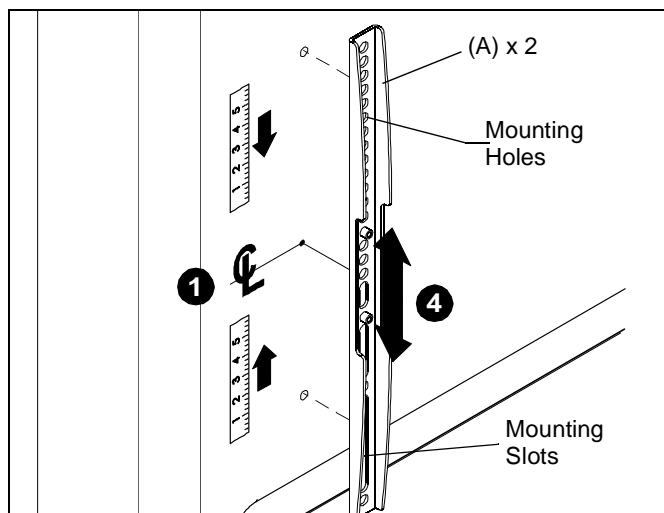
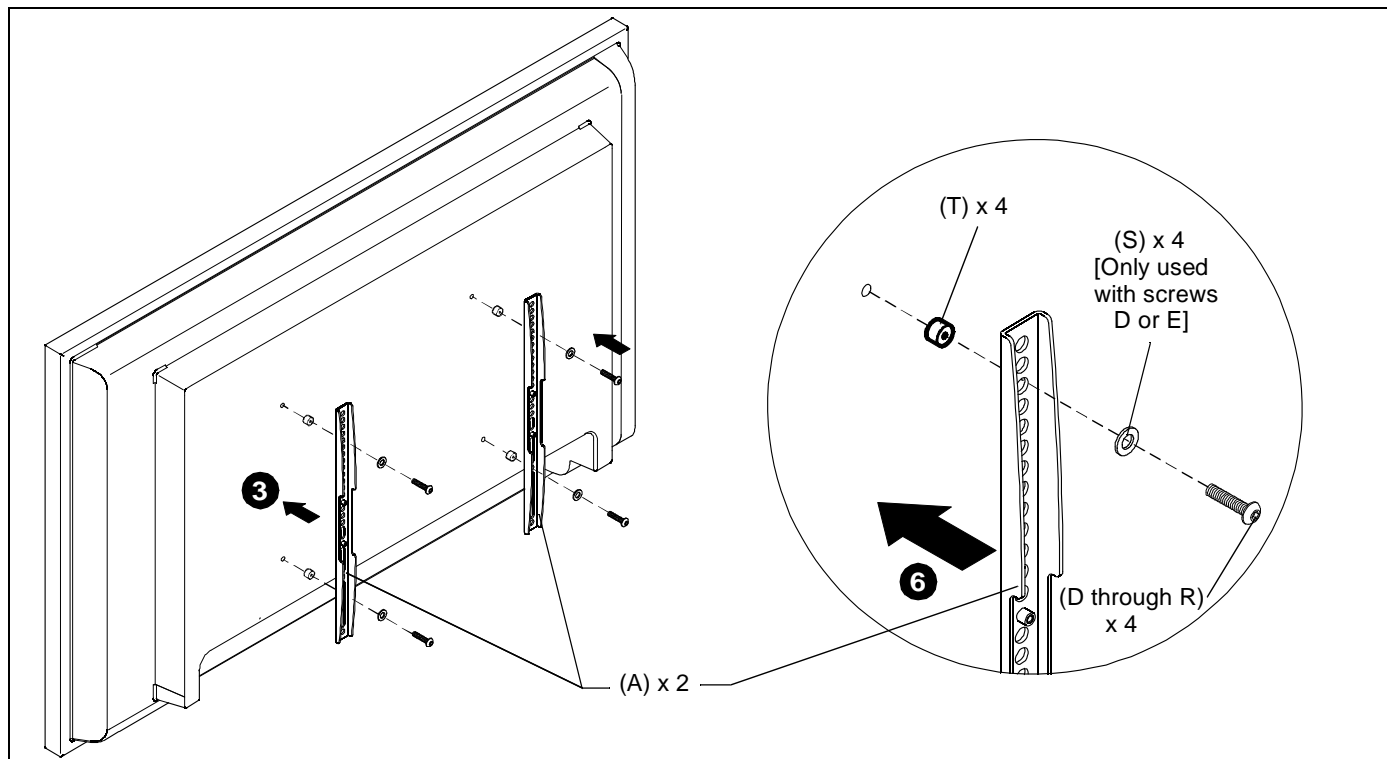

Figure 1
Figure 2
1. Determine and mark the vertical center position between the left side upper and lower mounting holes in display. (See Figure 1)
2. Determine and mark the vertical center position between the right side upper and lower mounting holes in display. (See Figure 1)
3. Orient vertical mounting bracket (A) so that mounting holes are on top and mounting slots are on bottom. (See Figure 1)
4. Align mounting holes and slots in vertical mounting bracket (A) with upper and lower mounting holes in display.
5. Adjust vertical mounting bracket (A) position until mark made in Step 1 aligns with center mark in vertical mounting bracket (A).
6. Secure left side vertical mounting bracket (A) to display using two Phillips pan head screws (D through R). (See Figure 2)
NOTE: If the display has a recessed mounting surface, protrusions or a power box, a spacer and longer mounting hardware must be placed between the display and vertical mounting brackets (A). (See Figure 2)